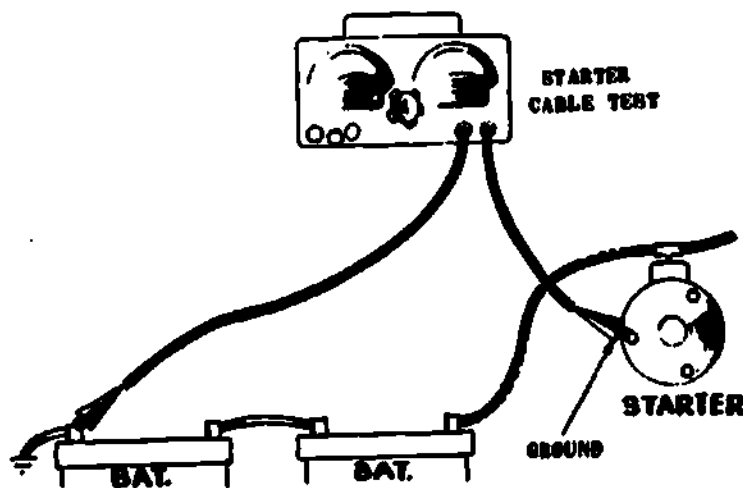

Fig 1-12. Ground circuit test.
- (c) Ground circuit test (fig 1-12). This test is made in the same manner as the cable test except that a reading above .2 volt is excessive. Excessive readings may be due to poor connections or defective parts within the starting motor. A poor connection between the engine and the vehicle frame will cause an excessive reading if the battery ground strap is connected to the vehicle frame. Excessive voltage loss indicates resistance in the circuit which will interfere with the operation of the entire electrical system.